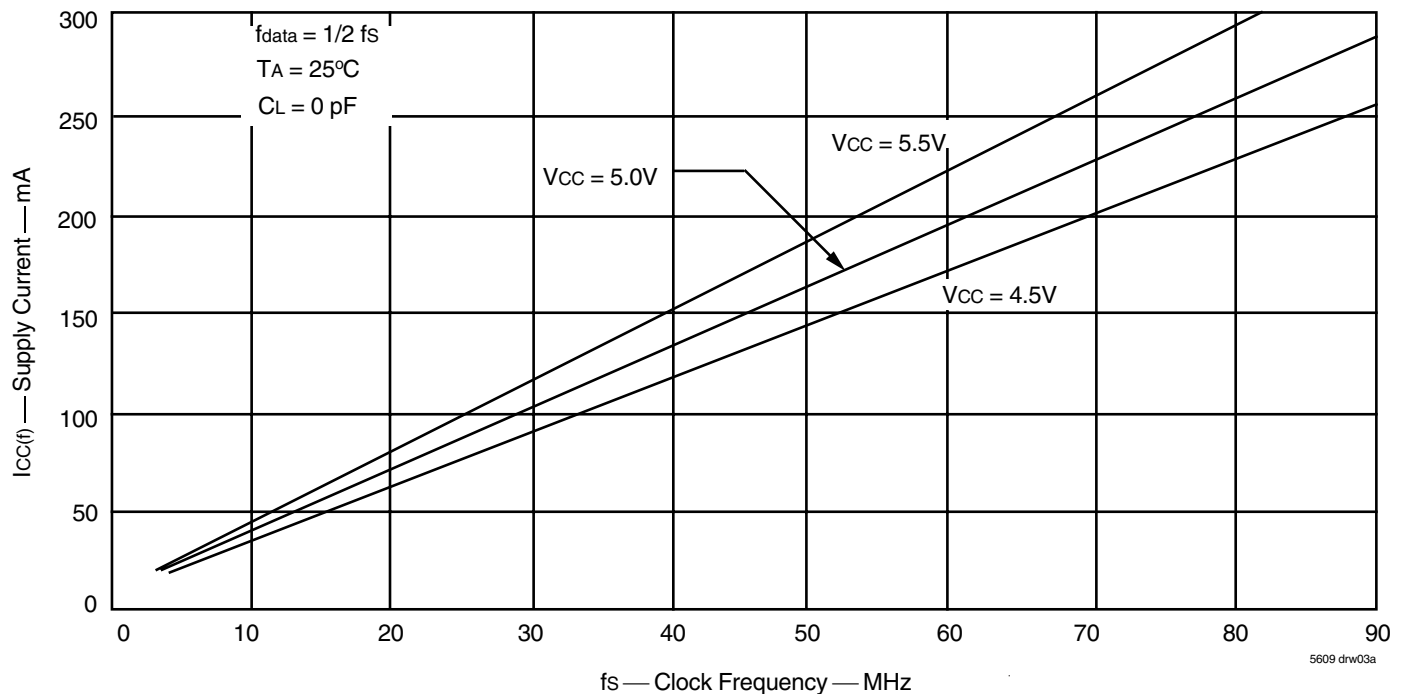

Figure 1. Typical Characteristics: Supply Current (I_{CC}) vs. Clock Frequency (f_s)
- For additional I_{CC} information, see Figure 1, *Typical Characteristics: Supply Current (I_{CC}) vs. Clock Frequency (f_s)*.
The $I_{CC}(f)$ current for the graph in Figure 1 was taken while simultaneously reading and writing a FIFO on the IDT723652/723662/723672 with CLKA and CLKB set to f_s . All data inputs and data outputs change state during each clock cycle to consume the highest supply current. Data outputs were disconnected to normalize the graph to a zero capacitance load. Once the capacitance load per data-output channel and the number of these device's inputs driven by TTL HIGH levels are known, the power dissipation can be calculated with the equation below.
With $I_{CC}(f)$ taken from Figure 1, the maximum power dissipation (P_T) of these FIFOs may be calculated by: